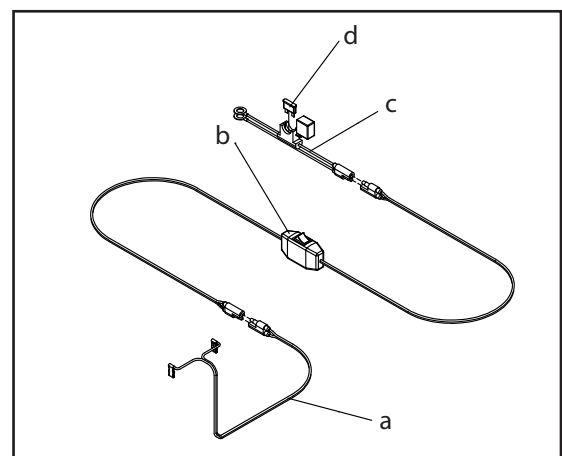

Figure 3: Wiring Harness
1. The compressor wiring harness (a) has a 2-pronged plug. This wiring harness needs to be connected to the switch wiring harness (b) which includes the control switch. Make sure the colors match (Figure 3).
2. The switch wiring harness (b) needs to be connected to the battery wire harness (c) which includes the 15 amp fuse (d). Make sure the colors match (Figure 3).